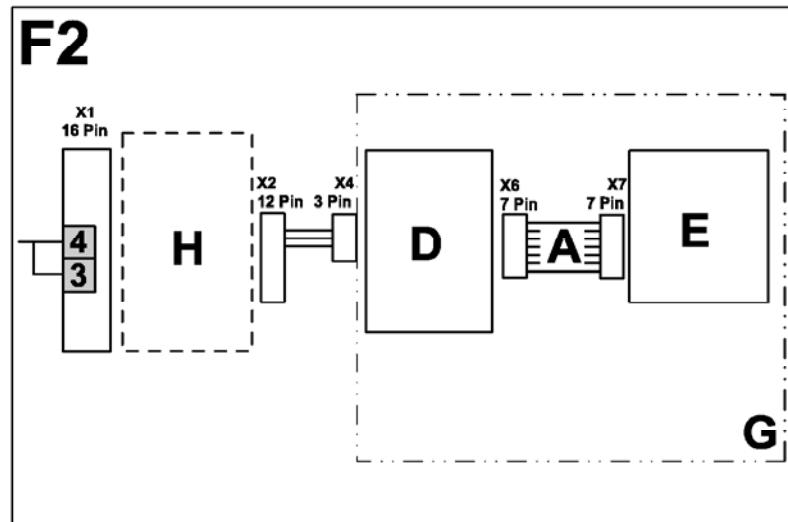

Figure 3
1.2 Block diagram as of model year 2008 ⇒ *Figure 3-F2-*.